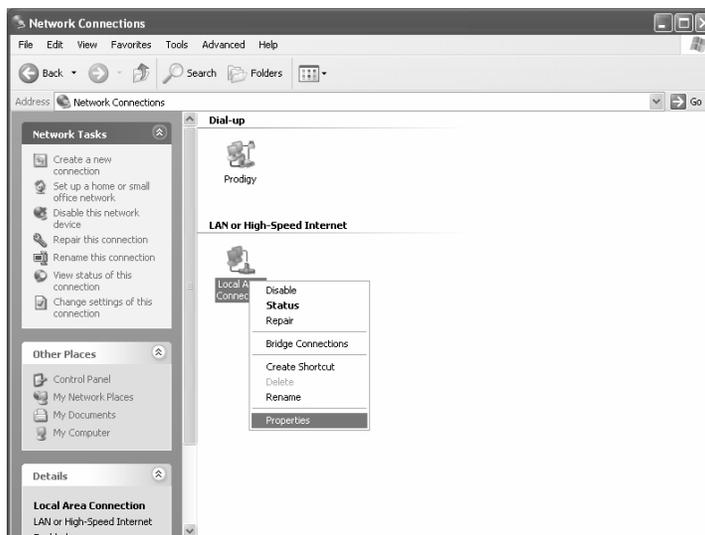

Figure 108: Network Connections
2. A list of network adapters appears. A Local Area Connection must be listed under LAN or High-Speed Internet. See Figure 108. If not, the network is not installed correctly.